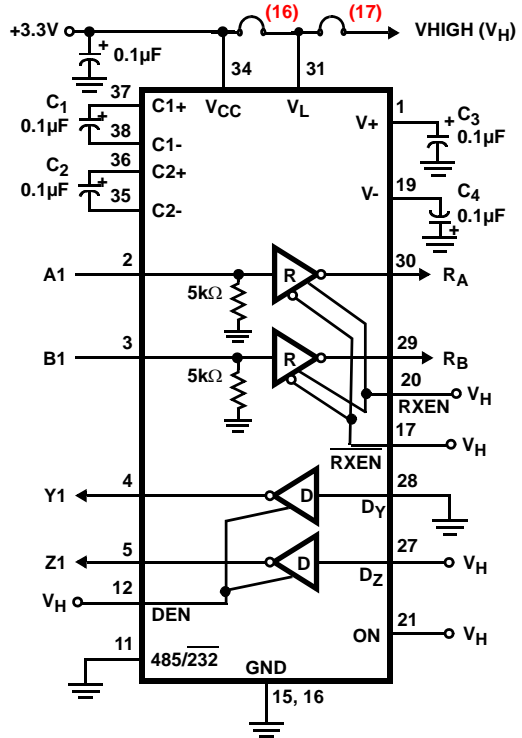

FIGURE 1. DEFAULT RS-232 CONFIGURATION
“A2 (485/232)” (7) to the “LOW” position. If RS-485 termination resistors (“R7” or “R9”) were added, ensure that they have been removed. Note that the RS-232 data rate is fixed at 400kbps, so the “SPB” (9) jumper has no affect (connect it high to minimize SHDN ICC), and that the “SLEW” pin becomes the second driver input, DZ. Figure 1 illustrates the ISL3331 configuration in this mode.
In the default configuration of Figure 1, RB (measure at the “RA1 (RB)” test point to the left of jumper (14)) and RA (measure at the “RB1(RA)” test point to the right of jumper (1)) are high due to the A1 and B1 5kΩ input resistors to GND.